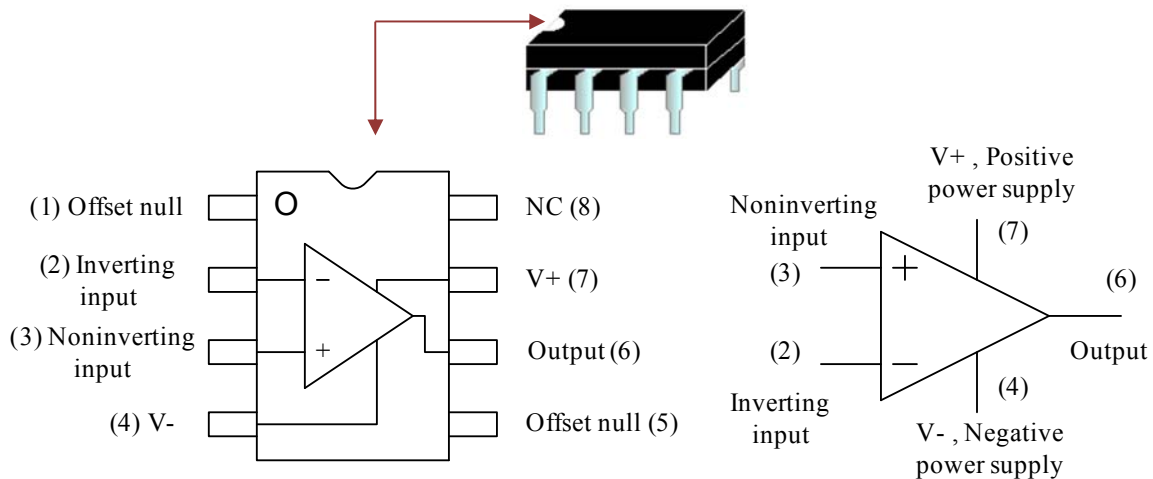

Figure 1: Pin details and configuration of IC 741.
1. In instrumentation circuits, the difficulty often arises in determining how a small dc signal (a few millivolts or less) should be amplified to a more useful signal level. A possible solution is the use of an **operational amplifier (op amp)**. Pin details of op amp 741 are shown in Figure 1.
2. An op-amp is a two-input single-output device. It is a voltage amplifier with high gain, broad bandwidth, high input impedance and low output impedance. The two inputs are called **inverting** (–) and **noninverting** (+), as shown in Figure 1. Op amps require two power supplies of the same voltage magnitude but opposite polarities. Practical op amp has a finite open-loop gain and a low pass frequency response.